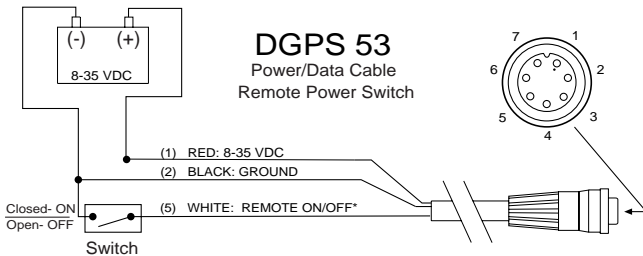

Figure 5: Wiring a Remote Power Switch For the DGPS 53
5. If a remote power switch is being installed, reference Figure 5 for wiring the switch. This will allow the DGPS 53 to remain connected to a power source, but manually powered on and off. Otherwise, if the receiver is being wired to a circuit which is already switched, (with the chartplotter for example) connect the WHITE wire to the same place as the BLACK wire. When the BLACK and WHITE wires are combined, the DGPS 53 will turn on/off when power is applied/removed to the RED (+) and BLACK (-) wires.